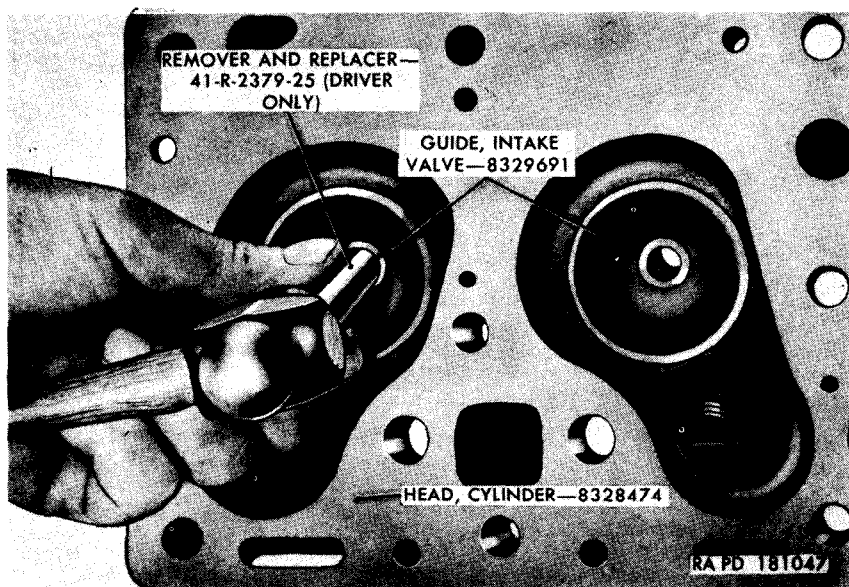

Figure 36. Removing intake valve guide using remover and replacer 41-R-2379-25.
- (*b*) If any of the intake valve guides are to be replaced (*b*(5) above), drive the guides out of the cylinder head using
- the driver only of the remover and replacer 41-R-2379-25 (fig. 36), Check the dimensions of the valve guide bores as specified in repair and rebuild standards (par. 144a).